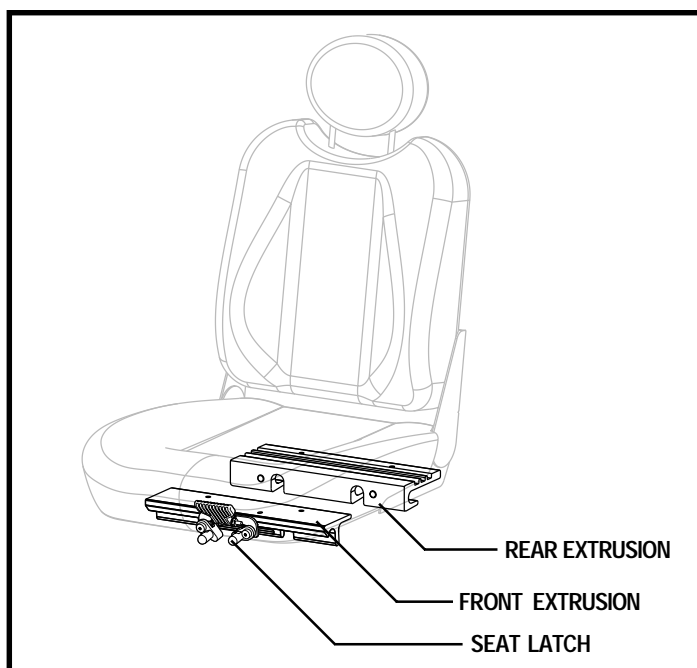

Figure 11. Universal Mounting System (UMS)
2. Tilt the seat back and slide the rear extrusion onto the rear trapeze bar. See figure 11.